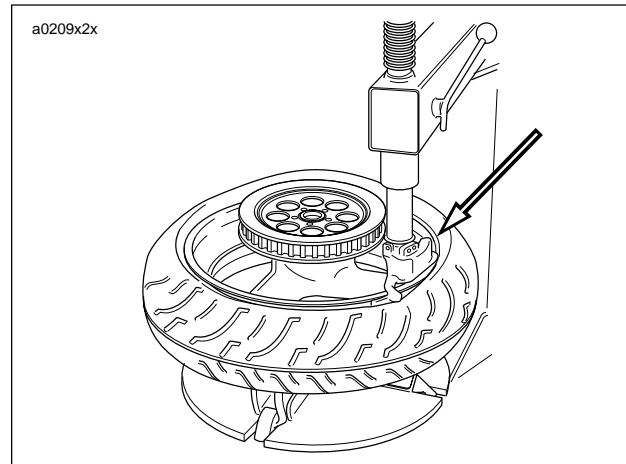

Figure 2-22. Starting Bead on Rim (Typical)
5. See Figure 2-22. Starting at the valve stem, start first bead into the rim well using a tire machine. If no machine is available, work bead on as far as possible by hand. Use a tire tool to pry the remaining bead over rim flange.